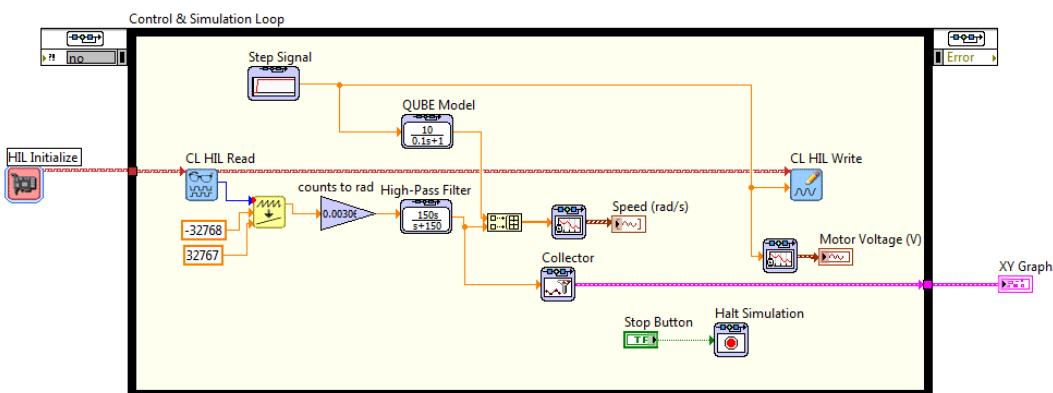

Figure 4.4: Validating bump test model
- To check if your derived model parameters K and τ are correct, modify the VI to include a Transfer Function block with the first-order model in Equation 4.1, as shown in Figure 4.4. Display both the measured and simulated QUBE-Servo responses in one scope (using Build Array from the Array category). Run the VI. Attach a figure displaying both the measured and simulated response in one plot, as well as in the input voltage.